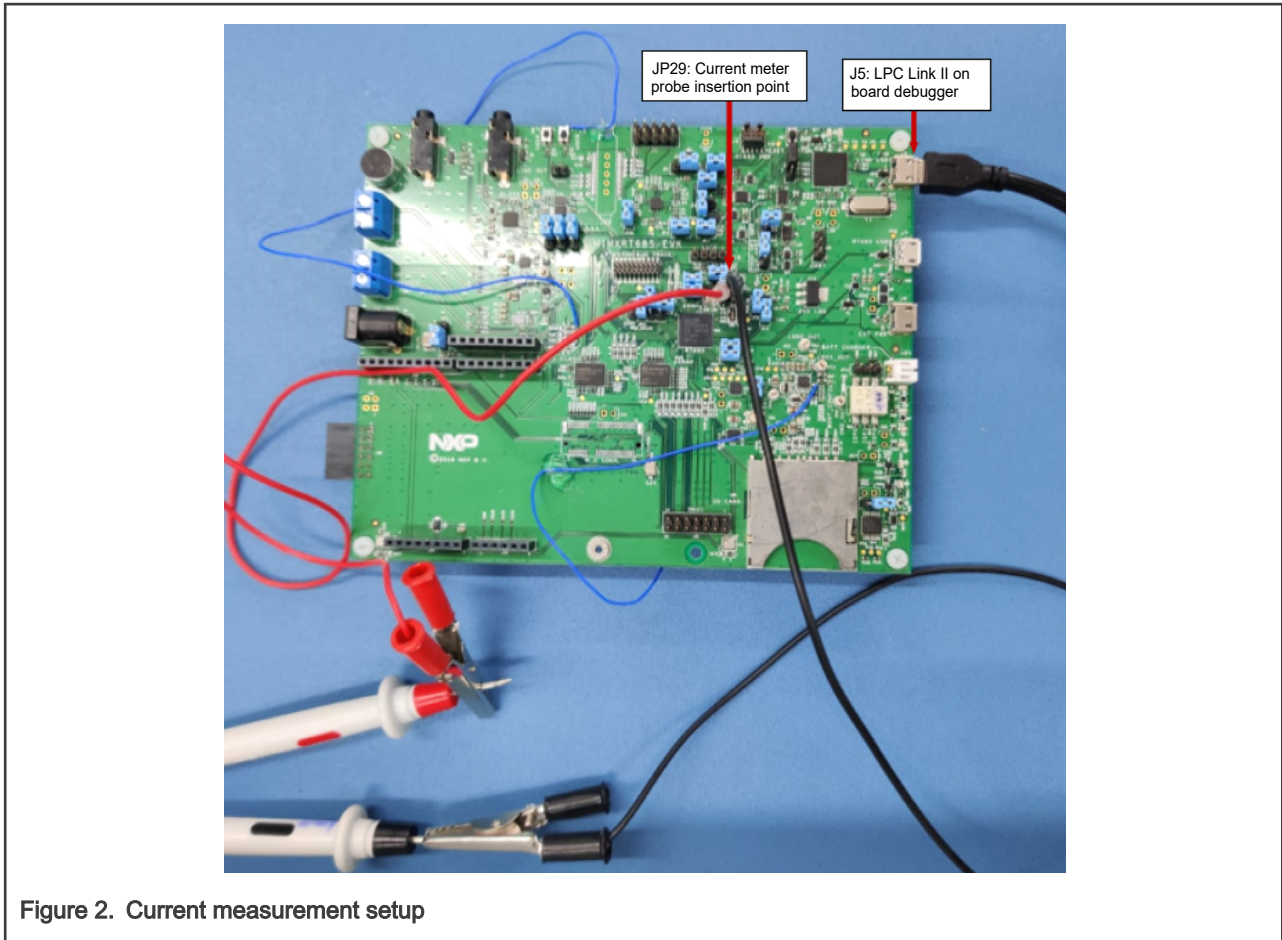

Figure 2. Current measurement setup
- Connect current meter to JP29, as shown in Figure 2.